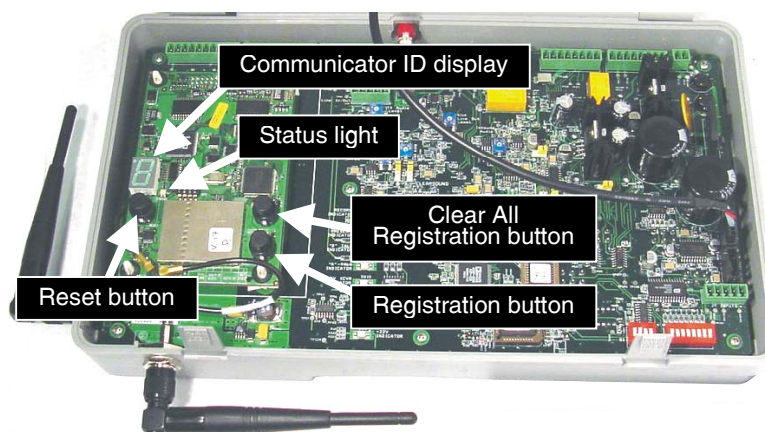

Figure 5. Registration button and indicators
- Open the base station and press the registration button near the lower-left corner of the base station circuit board shown in Figure 5.
- If no Communicators are powered on, the status light shown in Figure 5 will be blinking red. If any Communicators are powered on, the status light will be blinking green.